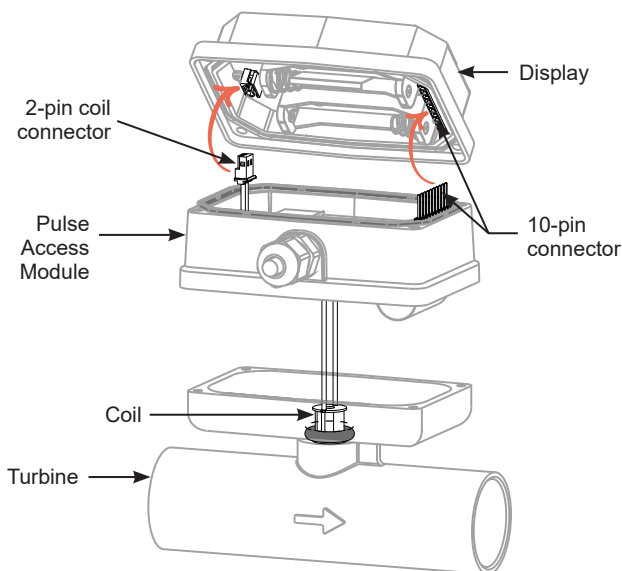

Figure 2
4. Connect the module to the 10-pin connector located on the back side of the computer electronics (see Figure 2).
5. Reconnect the coil connector to the 2-pin terminal block on the other end of the computer backside. Once the cables are installed on the display, the housing of the display can be placed on top of the module (see Figure 2).